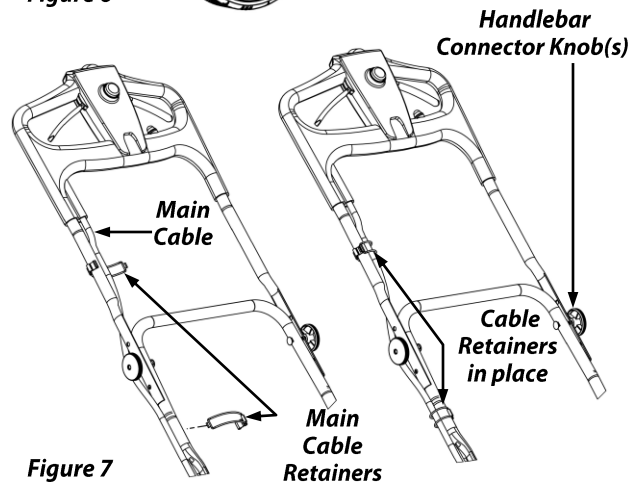

Figure 7
5. Rotate the Upper Handlebar Assembly to the upright position so that the Upper and Lower Handlebars align and tighten the Handlebar Connector Knobs by hand until snug (**Figure 7**).
6. Position the Main Cable along the Handlebars and secure it in place by holding the two (2) Main Cable Retainers in place while stretching the rubber strap around the Cable, and securing it into the Hook on the Retainer (**Figure 7**).